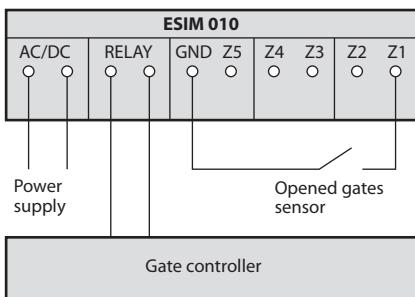

Fig. No 2
2. Connect the circuit as shown in fig. No 2. Connect control connectors of the gate automatics device to the relay contacts. The systems that are already installed most often contain a button for opening the gates. The relay can be connected instead of the button or in parallel with its contacts.